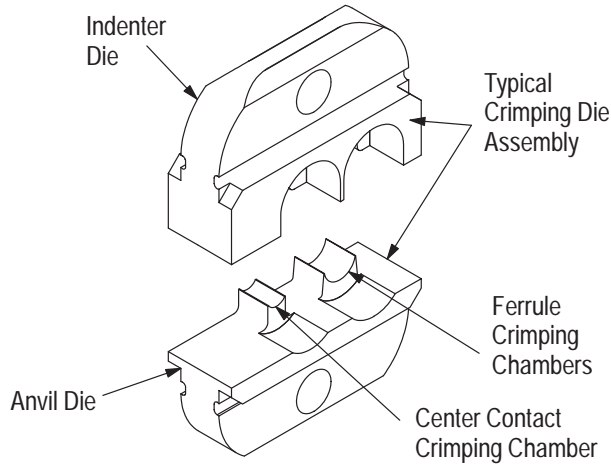

Figure 1
Each two-piece crimping die assembly consists of an indenter die and an anvil die, which when closed forms two or three crimping chambers. The larger crimping chambers crimp the ferrule of the connector onto the coaxial cable. The smaller crimping chamber crimps the center contact onto the center conductor of the coaxial cable. Each die is held in the PRO-CRIMPER II hand tool jaws by a single screw. See Figure 1.
**3. DIE INSTALLATION** (Figure 1)